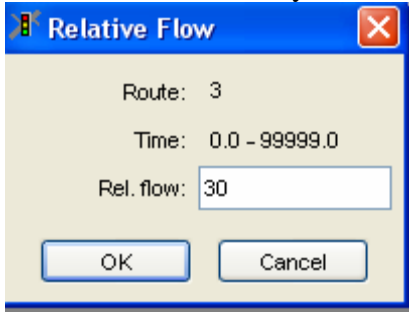

Figure 13. The “Relative Flow” window.
- Click the "Rel. Flow" button and the "Relative Flow" window appears (see Figure 13). Fill in the relative flow rate in the "Rel. flow:" field.